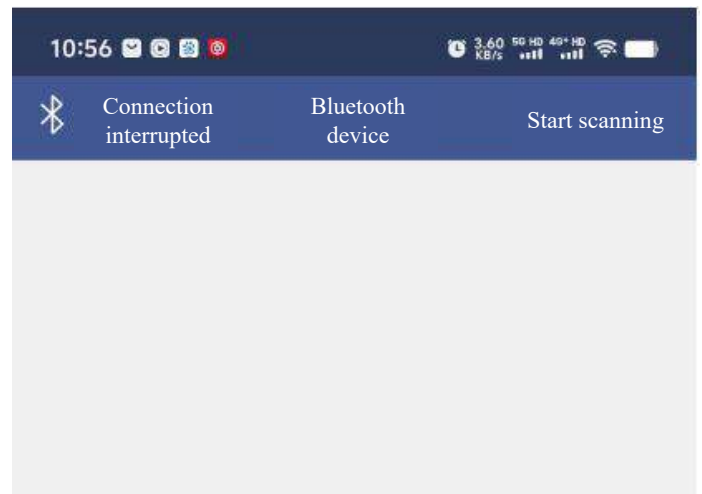

Figure 2.6
- ② Start scanning; if nothing is displayed, click it for more times, as shown in Figure 2.6